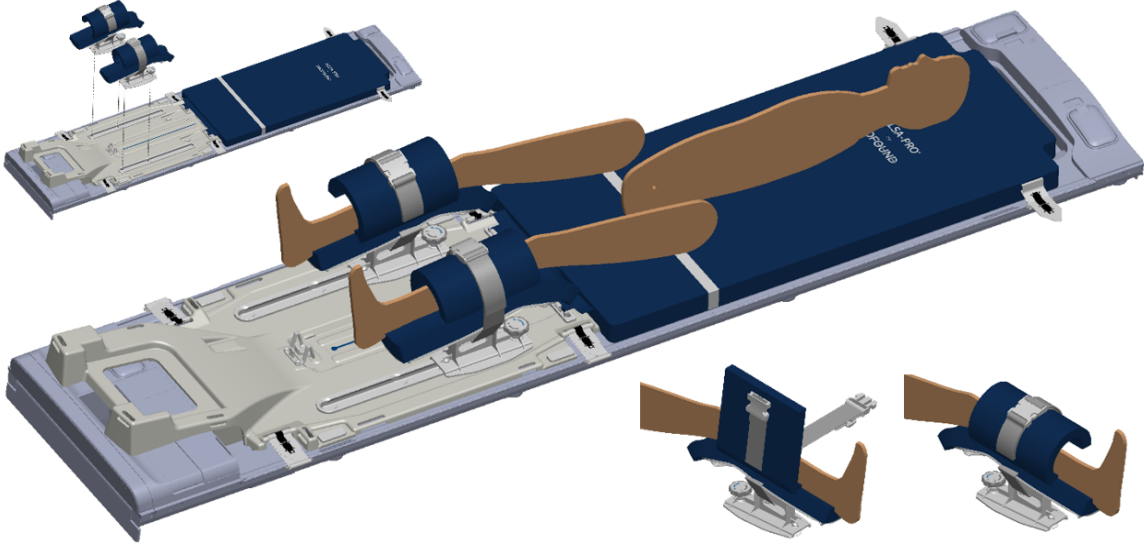

Figure 20: Initial patient positioning and attachment of leg supports
4. Have an assistant lift the patient's legs one at a time while you set up the leg supports (Figure 20):